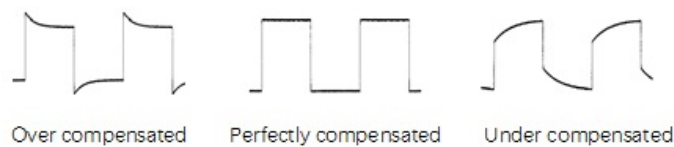

Figure 4.9 Probe Compensation
- 2 Check the displayed waveforms and compare them with the waveforms shown in *Figure 4.9*.